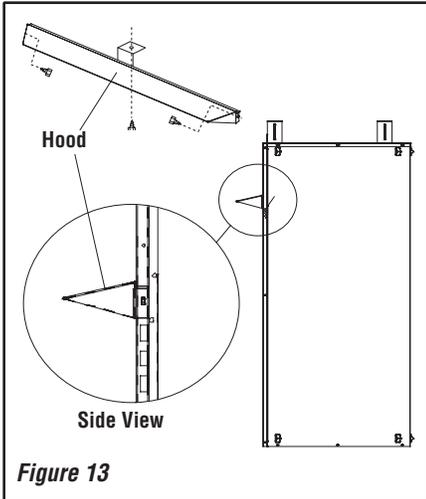

Figure 13
NOTE: A hood comes standard and is required for model VTR2536WS. The factory-supplied hood must be installed on the firebox for safe operation for model VTR2536WS in all installations (this part is optional for other models). See Figure 13.
- Step 2.** Align the hood with the holes in the side frames as shown in Figure 13. Install three screws as shown in Figure 13. Make sure hood is level and secure.